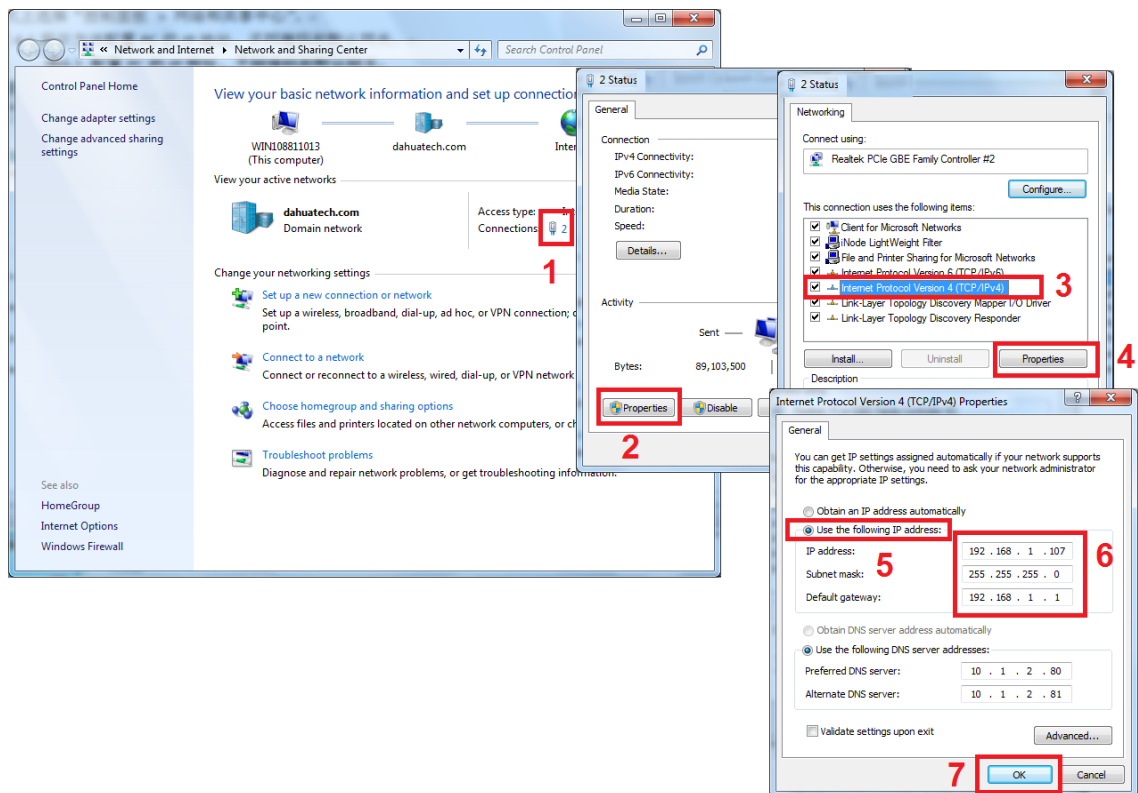

Figure 4-1
- Step 2 Change PC IP in the same IP segment with the NVS (192.168.1.108).For Windows OS, from **Control panel->Network and Internet->View network status and task->Local connection->Properties->Internet protocol version 4(TCP/IP)->Properties**, set PC IP address, subnet mask, default gateway and etc. See Figure 4-1.